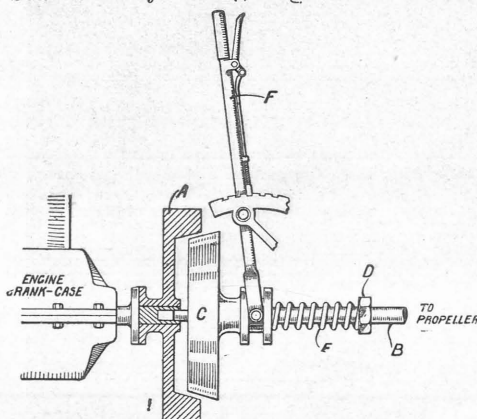

Fig. 1.—Diagram of cone clutch.
itself, so that there is no difficulty at all about providing enough compressed air. By far the commonest form of clutch is the cone variety shown in Fig. 1. The flywheel (A) coupled direct to the engine crankshaft is turned inside to a cone or taper form, as shown. The propeller shaft (B), instead of being coupled direct to the engine as in a steam boat, has a clutch